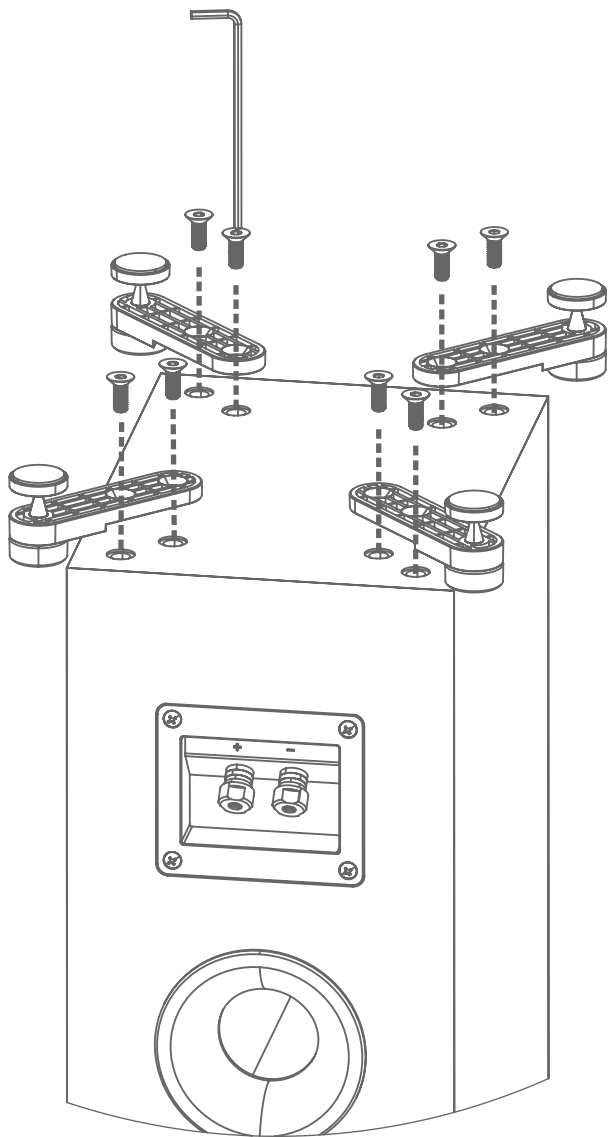

Figure 2
- For the best results and the most realistic stereo image and lifelike sound, place the speakers so that an equilateral triangle (fig. 2) is created between the speakers and your favorite listening position. This set up creates the optimum imaging performance.